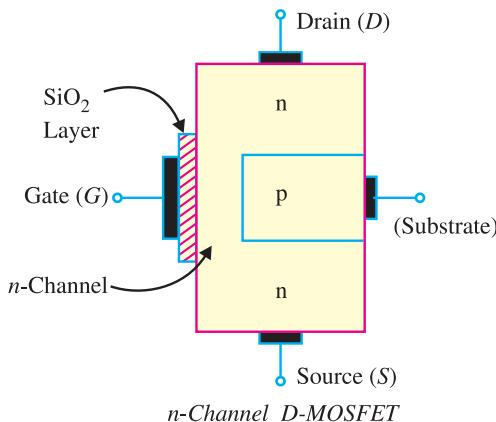

Fig. 19.43
1. D-MOSFET. Fig. 19.43 shows the constructional details of *n*-channel *D-MOSFET*. It is similar to *n*-channel *JFET* except with the following modifications/remarks :
(i) The *n*-channel *D-MOSFET* is a piece of *n*-type material with a *p*-type region (called *substrate*) on the right and an *insulated gate* on the left as shown in Fig. 19.43. The free electrons (Q – it is *n*-channel) flowing from source to drain must pass through the narrow channel between the gate and the *p*-type region (*i.e.* substrate).